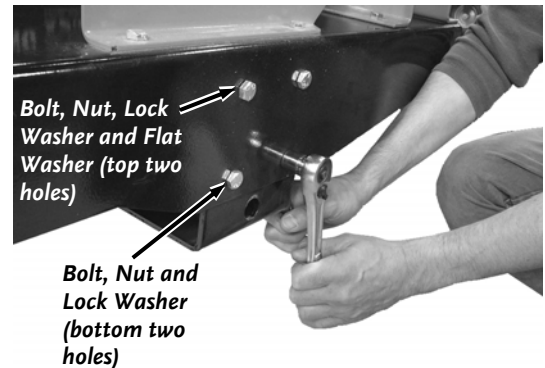

Figure 57
7. Remove the four Bolts, Lock Washers and Nuts (two large washers on top two holes only) from the side of the chipper Frame with two 9/16" wrenches (**Figure 57**).